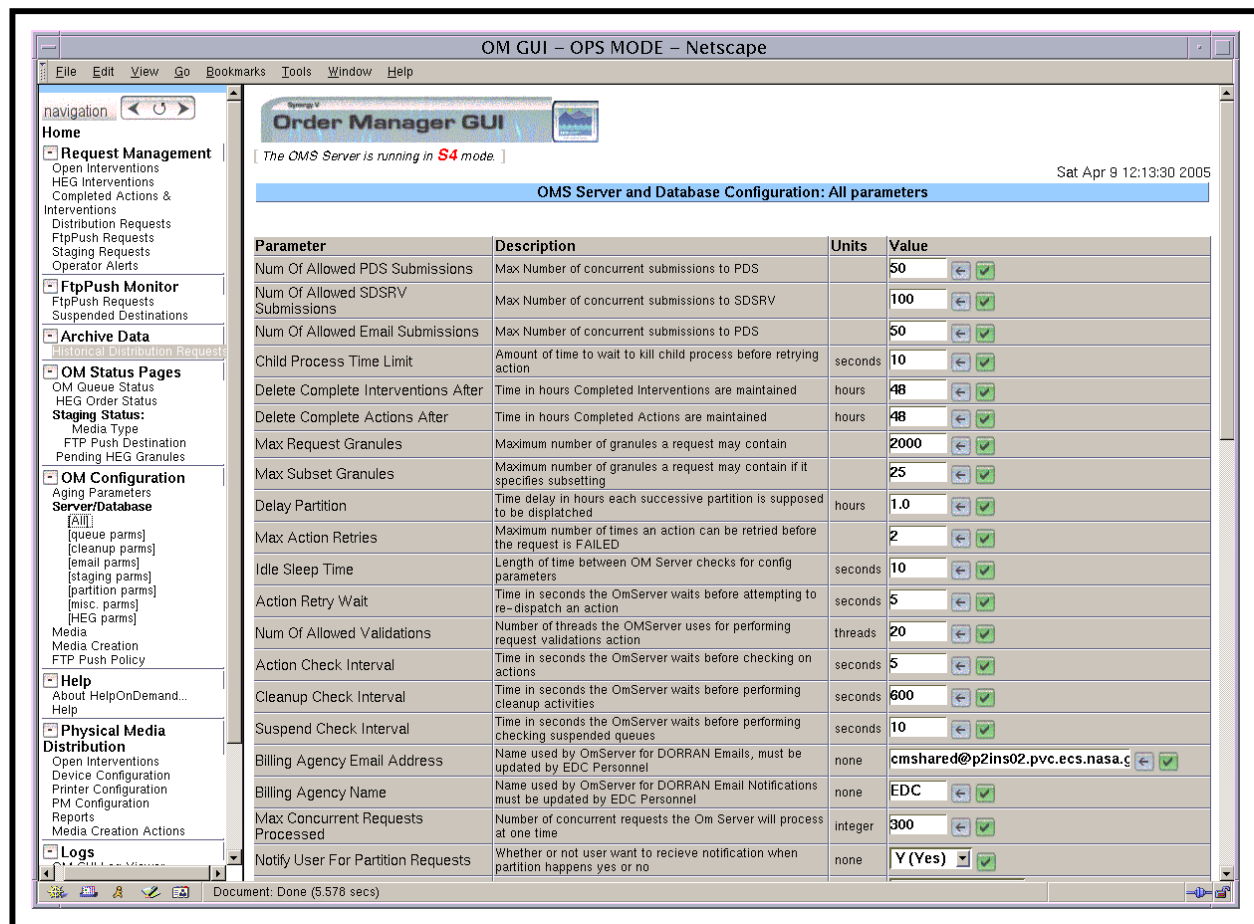

Figure 61. OMS Server and Database Configuration Page
The **OMS Server and Database Configuration** page (Figure 61) provides the full-capability operator with a means of checking and modifying OMS server or database parameter values.
- 2 If the **OMS Server and Database Configuration** page (Figure 61) is not already being displayed, click on one of the links under the **Server/Database** header in the navigation frame of the **OM GUI**.
- For example, if the **All** link is selected, the **OMS Server and Database Configuration** page (Figure 61) is displayed.